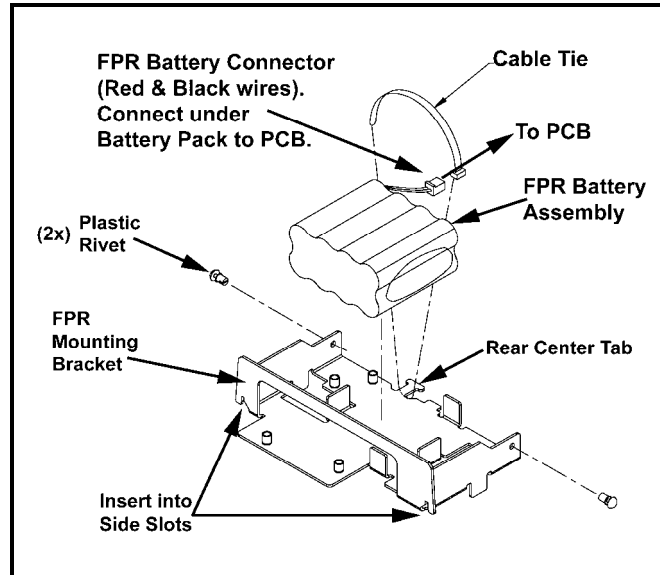
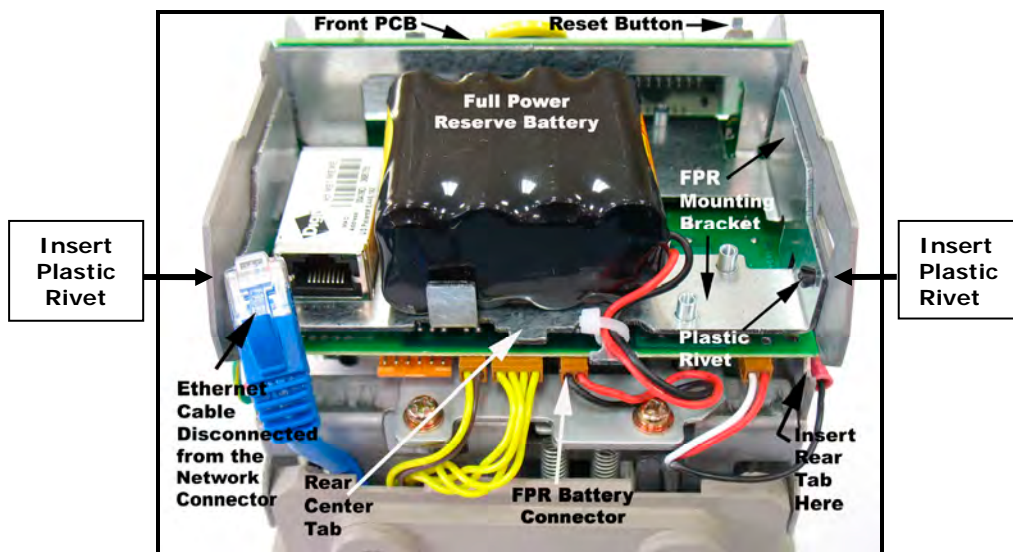
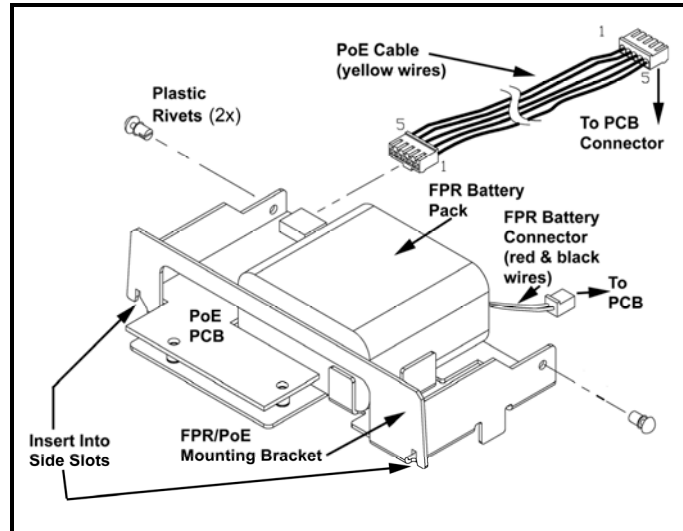
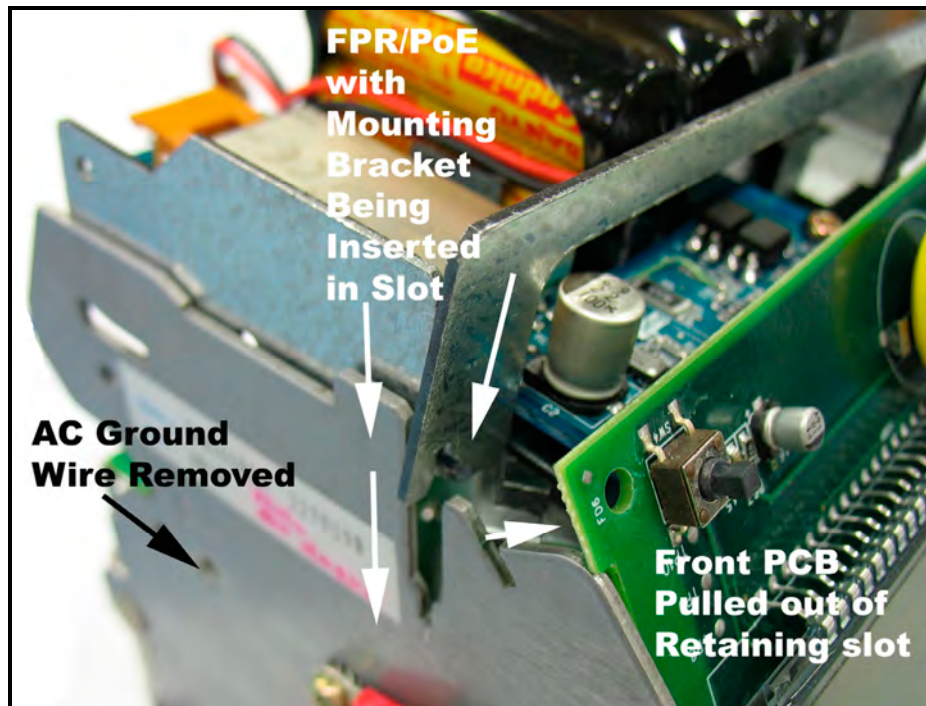

Figure 2-5. FPR & Mounting Bracket.
Figure 2-7. Auto-Sync Time Clock Rear View.
Figure 2-10. PoE/FPR & Mounting Bracket.
Figure 2-11. Front PCB & Mounting Bracket.
7. Carefully insert the FPR mounting bracket with the FPR battery pack (see *Figure 2-5*). It will fit only one way as it must slip over the rectangular shaped network connector (see *Figure 2-7*).
9. Install the two plastic rivets (1 per each side) as illustrated in *Figure 2-7* through the side of the clock frame into the proper locating hole in the FPR mounting bracket (see *Figure 2-5*).
10. With the FPR battery pack in the holder alongside the network RJ-45 connector, plug in the FPR battery cable (the connector with the black and red wires) into the open brown connector (see *Figure 2-7*) located just under the battery pack on the PCB at CN4.
6. Carefully lift the front PCB up and out of its retaining slot. This is the PCB with the coin battery on it. Just lift the PCB up enough to provide adequate clearance for the PoE/FPR mounting bracket (see *Figure 2-11*) to be inserted into its retaining slot.
7. Carefully insert the PoE/FPR mounting bracket (see *Figure 2-10*). It will fit only one way as it must slide over the rectangular shaped RJ-45 network connector (see *Figure 2-7*). Also, ensure that the mounting frame fits properly in the side slots (see *Figure 2-11*).
8. Install the two plastic rivets (1 per each side) through the main clock frame into the locating holes as illustrated in *Figure 2-10* to help align and secure the mounting bracket.